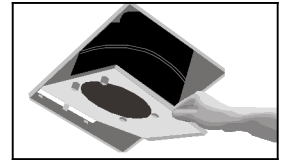

Fig. 3
- After you have installed the housing in the ceiling, run ducting from the unit to the outside and have made the necessary electrical connections you can reinstall the light housing, motor plate and blower in the fan housing (Fig. 3). Plug the fan's blower assembly into the fan's receptacle before you lift the motor plate/blower assembly up into position and secure the motor plate using the screw removed earlier. Plug the light housing into the intended wiring harness after the motor plate is secure. Rotate the blower wheel by hand to ensure it revolves freely.